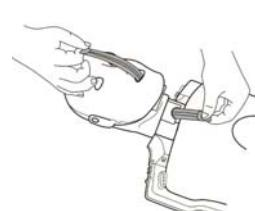

Figure 7
- Grasp the Lung-Bag and finish pulling it through the neck of the manikin (Figure 7).